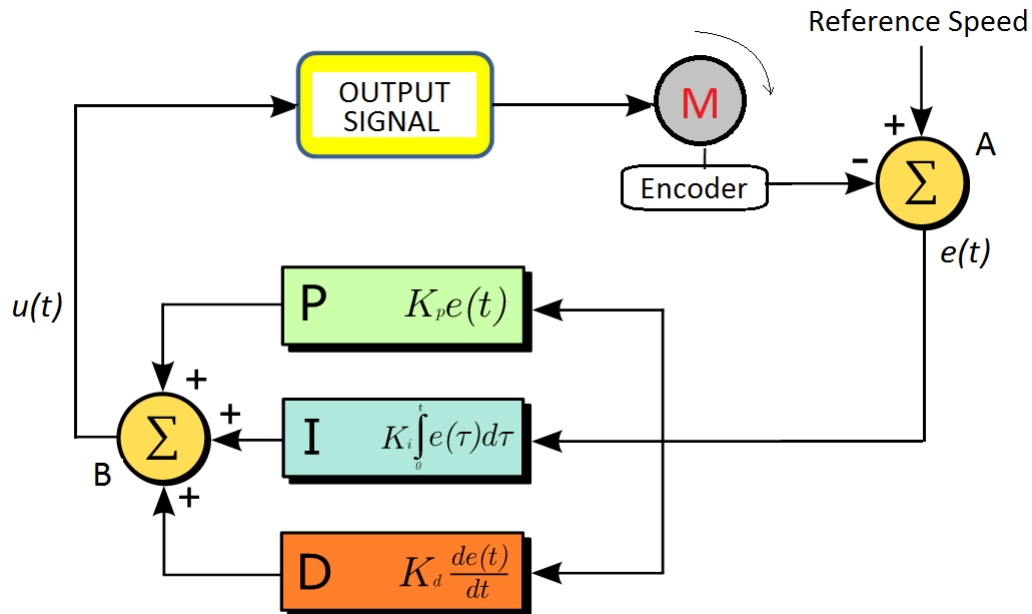

Figure 4.5a PID Control
PID is a control loop with feedback and is used in most of industrial processes. It is a pre-defined procedure of output refinement process. Figure 4.5a is a typical PID motor speed control system.  $e(t)$  is the difference between motor speed and reference speed called error signal.  $e(t)$  signal is processed from 3 different parallel channels. These are Proportional (P), Integral (I) and Derivative (D) processes. All channels calculate correction signals with defined parameters and send refinement signal to B point. Sum of refinement signals creates output signal  $u(t)$ . Main functions of processes are described in the table below.